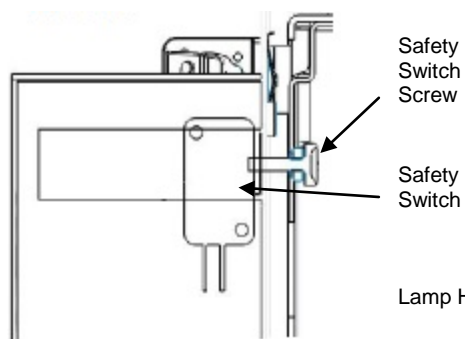

Figure 8 – Safety Switch (side view)
- 5) Attach 3/4" 8-32 safety switch screw to cabinet frame (fig 8) to activate safety switch.